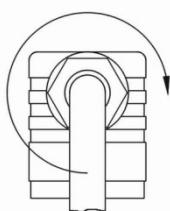
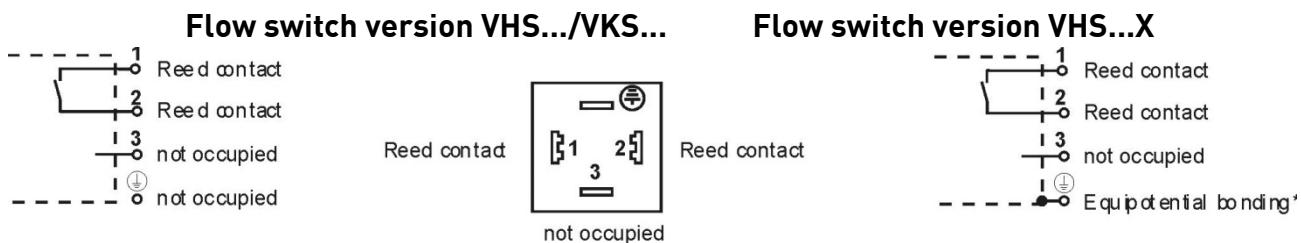

Fig. 11
Fig. 13 \* To prevent electrostatic charging the VHS...X devices have to be connected to the equipotential bonding via the plug connector.
- ↳ Connect the wires as displayed in the connection diagram (→ Fig. 13).
- ↳ Press the core ⑧ into the cable socket ② until it locks into place.
- ↳ Put the central screw ⑥ in the cable socket ② and tighten the screwed cable gland ⑤ M16x1,5 (→ Fig. 11).